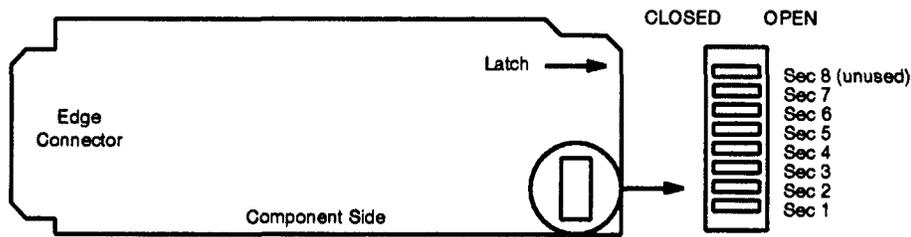
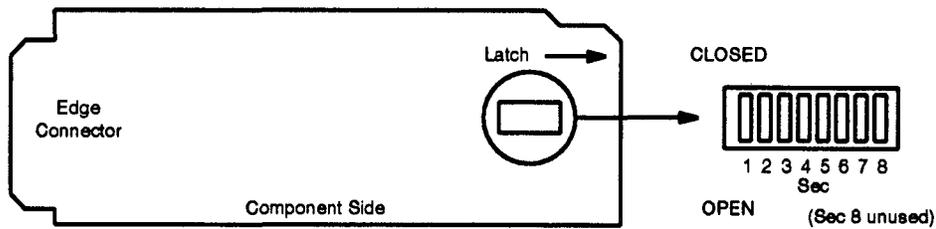

Figure 2. AEK36B DS1 INTFC2 Option Switch Location
Figure 3. DS1 INTFC2 (AEK36B S1:2, S1:3, S1:4 and AEK36C) Option Switch Location
7. Refer to **Figure 2** for the **AEK36B** or **Figure 3** for the **AEK36B S1:2, S1:3, S1:4**, or the **AEK36C** and set the option switches according to **Tables C and D**. Note that the eighth switch section is unused.